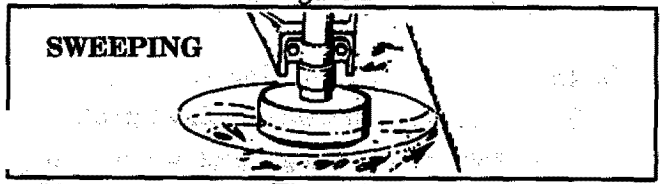

Figure 15
4. **SWEEPING** — **Figure 15**. The fanning action of the rotating line can be used for a quick and easy clean up. Keep the line parallel to and above the surfaces being swept and move the tool from side to side.